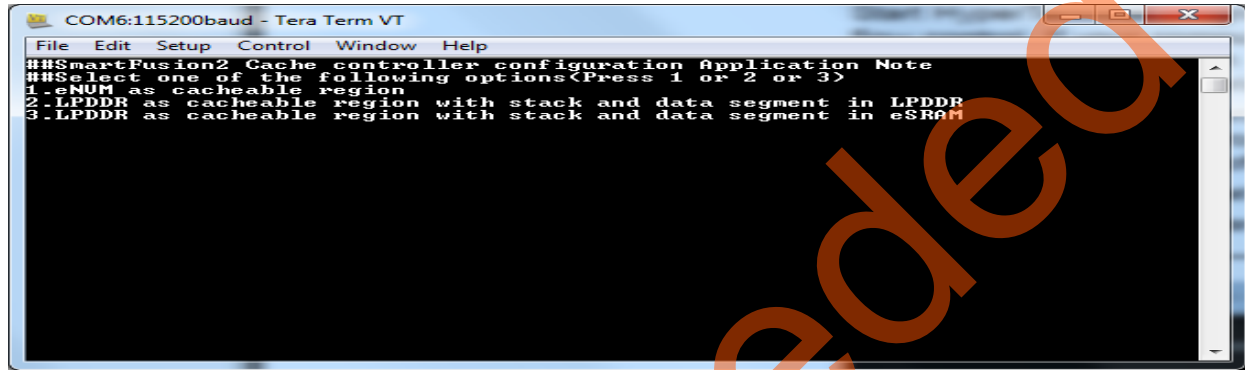

Figure 9 • User Options
6. The serial terminal program displays the user options, as shown in Figure 9.
Updated Figure 9, Figure 13 and Figure 14 (SAR 42936).	12, 14